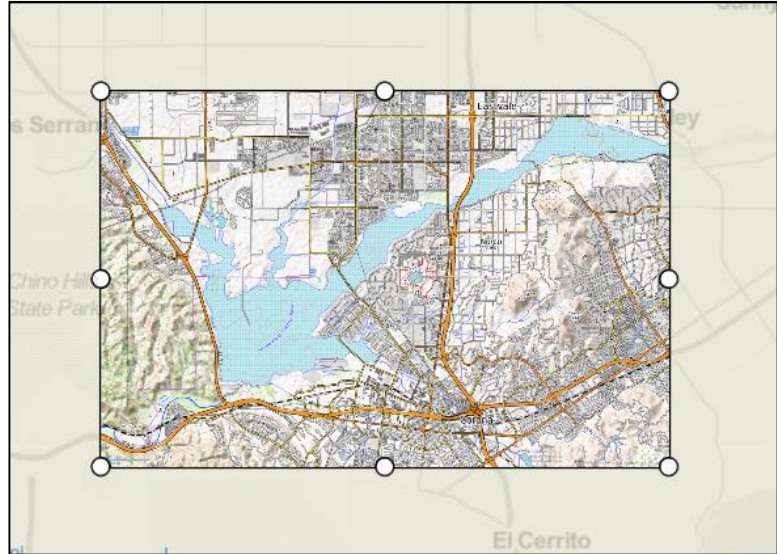

Figure 5. A raster map with its vertices
- As shown in Figure 5, a raster map consists of an image and a polygon with eight vertices along its perimeter.